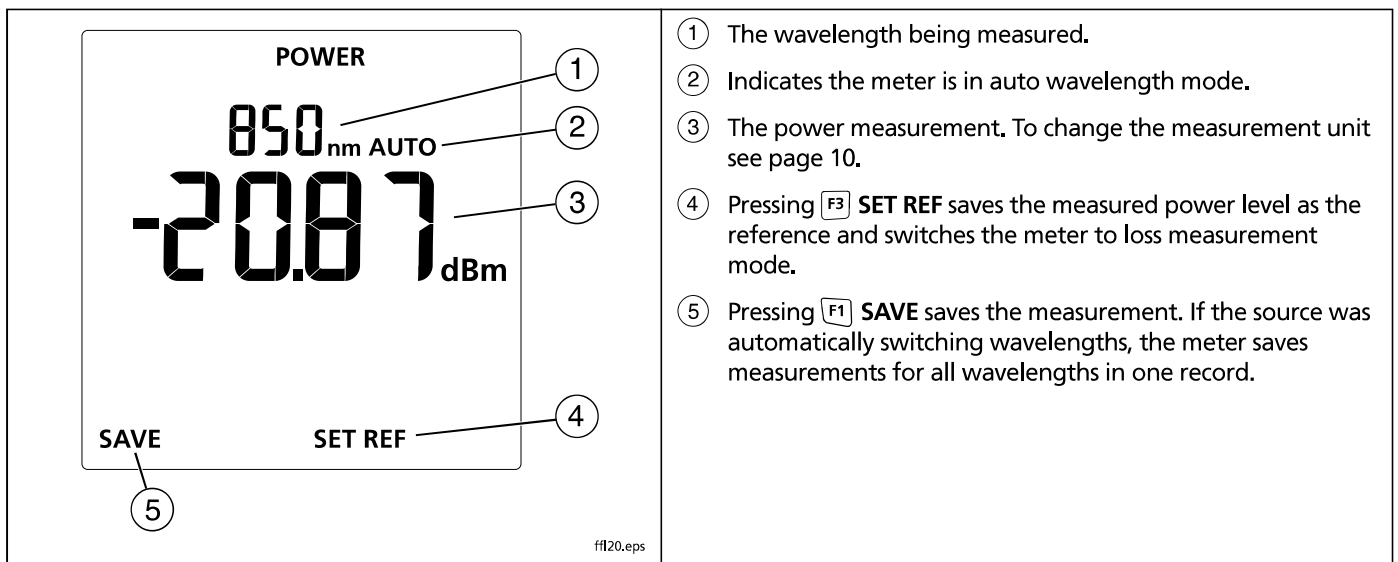

Figure 8. Power Measurement Display
- 2 On the meter, press **MODE** until **POWER** appears (Figure 8.)
- 5 On the meter, press  until **POWER** appears (see Figure 8 on page 21).